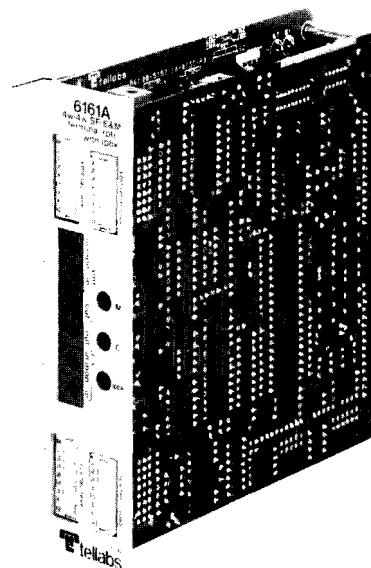

figure 1. 6161A 4Wire-to-4Wire SF-to-E&M Terminal Repeater module
1.01 The 6161, 6161A, 6161B, and 6161C 4Wire-to-4Wire SF-to-E&M Terminal Repeaters (figure 1) are Tellabs Type 10 plug-in modules that provide both active transmission interface and full-duplex SF-to-E&M signaling conversion between a 4wire PBX trunk or 4wire line that uses E&M signaling, and a 4wire metallic facility that uses 2600Hz single-frequency (SF) signaling. All four 6161X modules meet the specifications given in AT&T Technical Reference Pub 43002 for Network Channel Terminating Equipment (NCTE) Criteria, and, in addition, the 6161A and 6161C meet the specifications given in Pub 43004 for Transmission and Signaling Loopback Criteria.